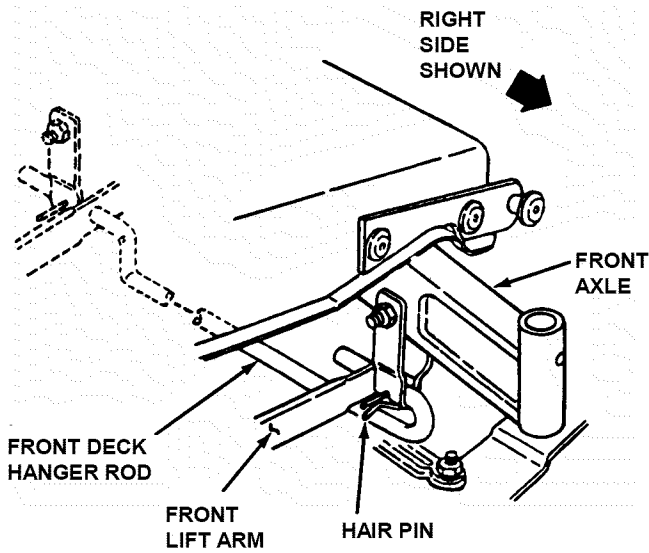

FIGURE 4.30
5. Remove hair pins from the front deck hanger rod. See Figure 4.30.